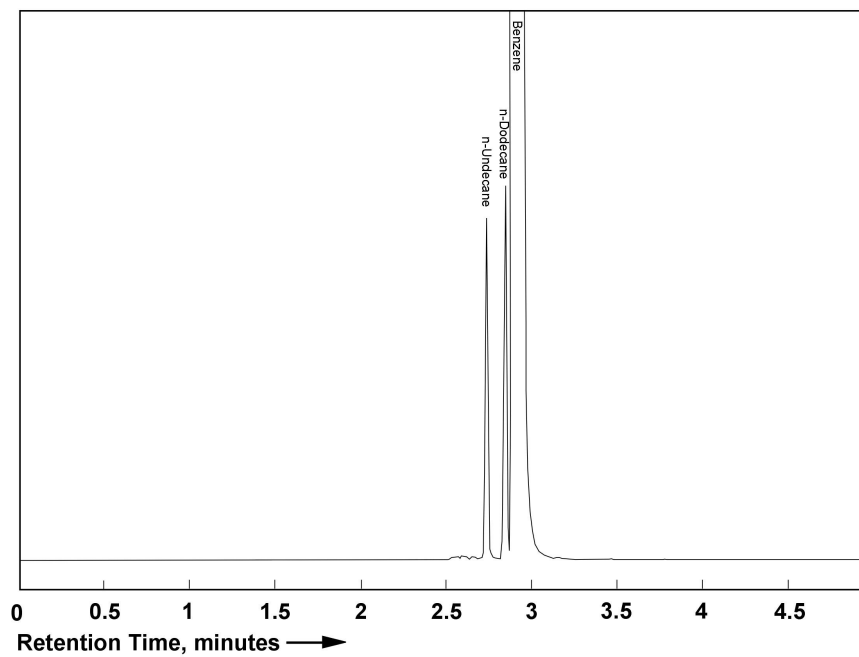

Figure 3
8. Determine if the column has adequate resolution for this analysis by comparing the resolution test mixture chromatogram with Figure 3.